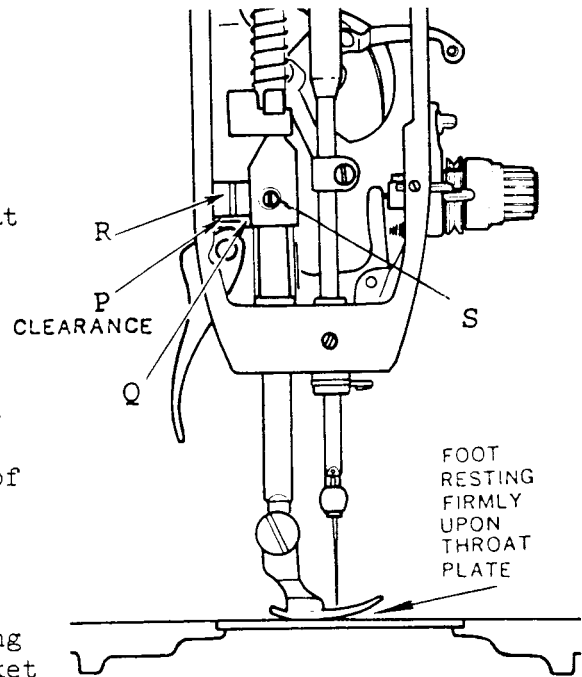

Fig. 8
1. When presser foot rests firmly upon throat plate (with feed dog below throat plate) there should still be some clearance P between guide bracket R and lifting bracket Q, as shown in Fig. 8.
Lower the presser foot. Loosen clamping screw S, Fig. 8. Raise or lower guide bracket R as required. Make certain presser bar is positioned correctly so that needle will locate centrally between the two toes of the presser foot. Securely tighten screw S.